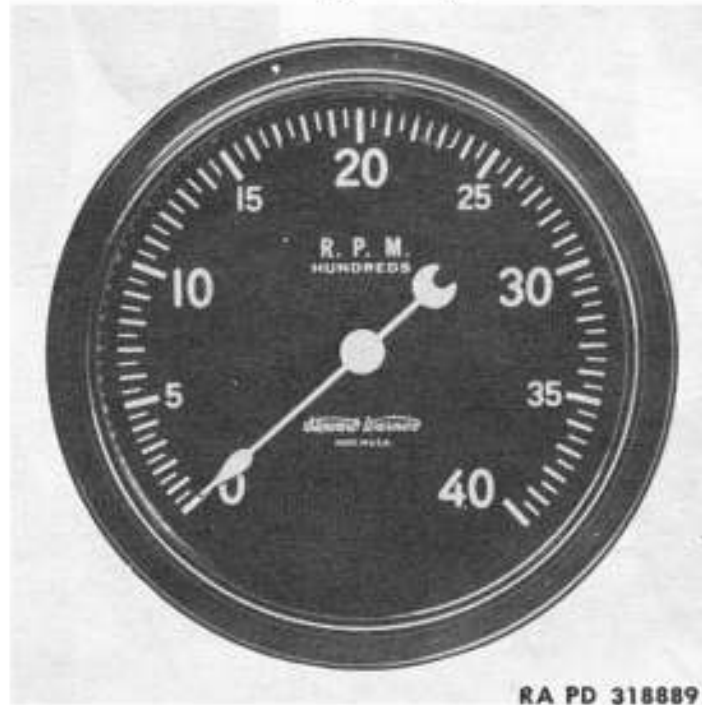

Figure 4—Tachometer
(2) **TACHOMETER.** A magnetic-type tachometer (fig. 4) is similar to a speedometer, except that the face dial indicates in revolutions per minute (instead of miles per hour) and is ordinarily used to indicate vehicle engine speed. A tachometer is driven through a flex-